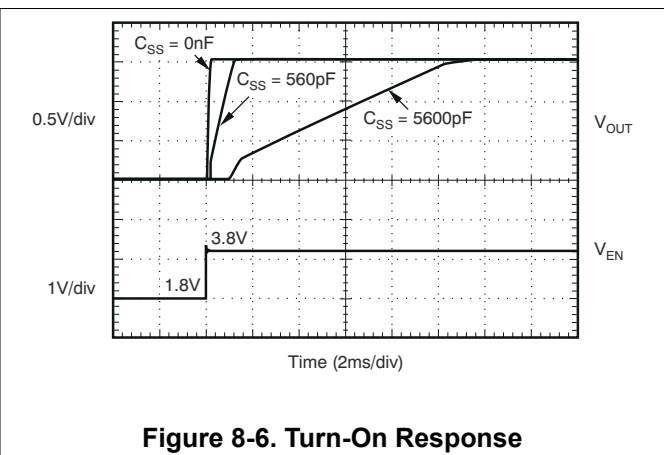

Figure 8-6. Turn-On Response
3. Select a minimum of a 2.2-µF ceramic output capacitor. Increased output capacitance helps the output load transient response. Figure 8-6 gives examples of the load transient response with different output capacitor values and types.